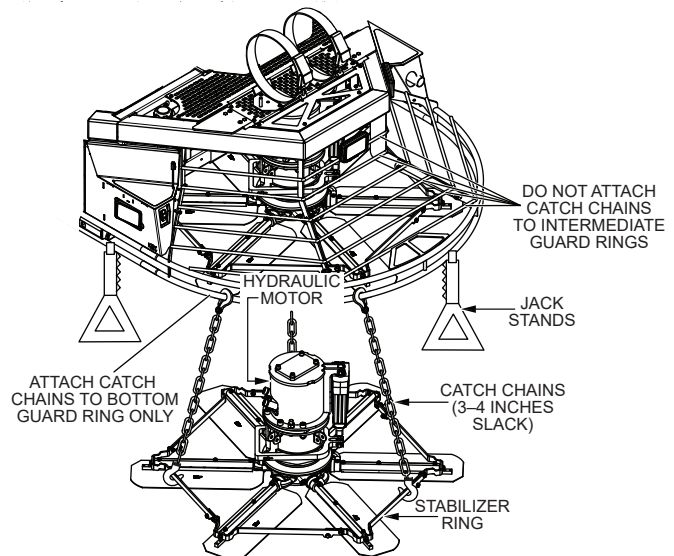

Figure 72. Preparation For Spider Removal
3. Place the trowel on heavy-duty jack stands (Figure 72) on secure, level ground in an area that is free of dirt and debris.
4. Attach one end of three equally spaced straps or catch chains to the stabilizer ring (Figure 72). Attach the other end of these straps or chains to the **bottom guard ring** in a manner that would prevent the spider assembly from falling.
Make sure the catch chains are positioned so that they are equally spaced, with **no more than 3 to 4 inches of slack**. The catch chains in Figure 72 appear longer than actual size. They are shown this way for clarity only.